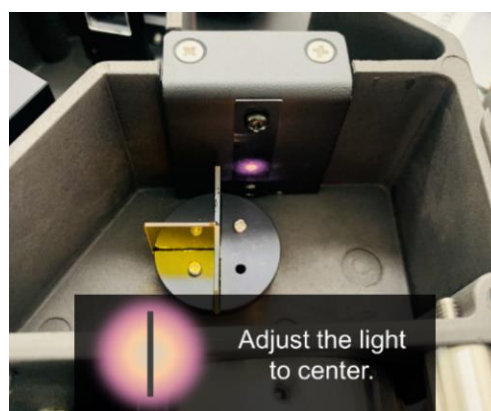

Figure 7. Check the light beam to center of slit.
- c. Set the wavelength of 230nm then the light beam that is passing through the center of the slit as like Figure 7.
**Criteria: the light beam is determined to be correctly positioned if the two black circles should be symmetrically centered on the paper target and also the filament is visible between two black circles (refer to Figure 7).*